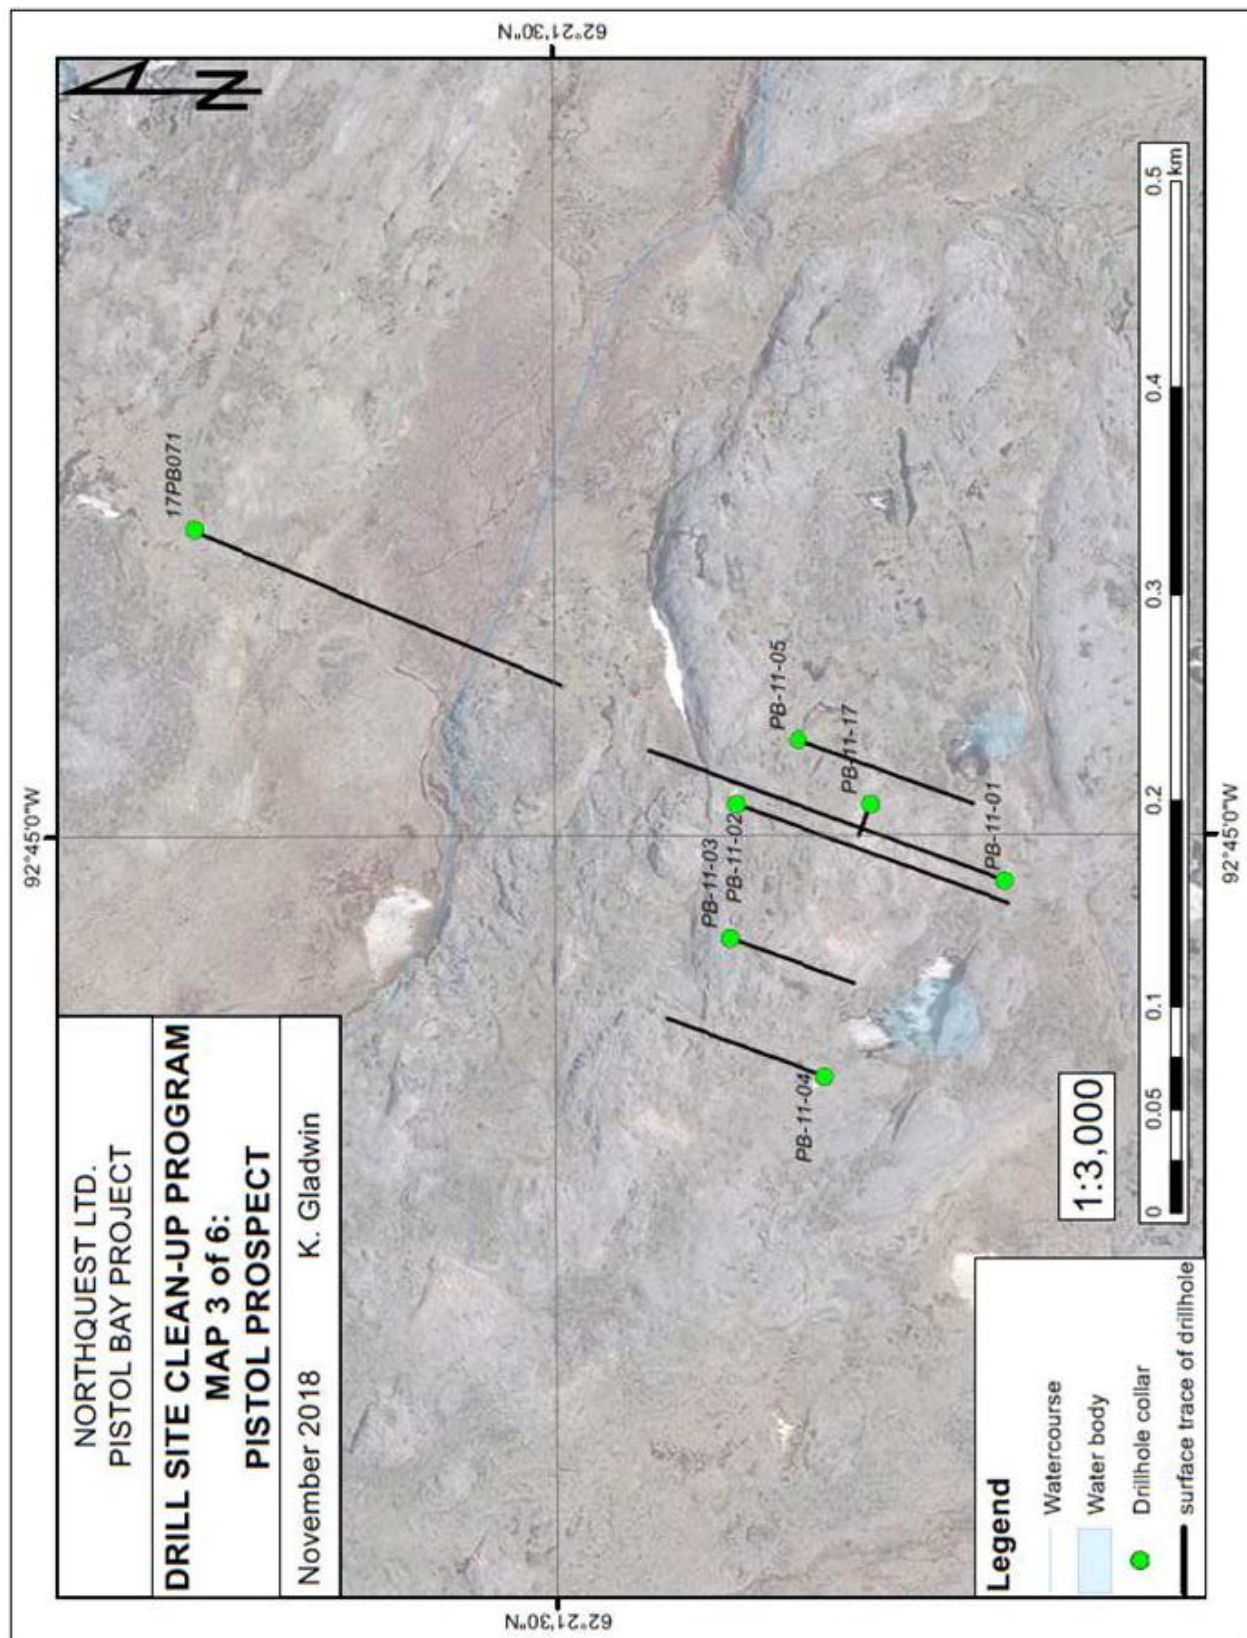

Figure 10. Map illustrating the Pistol Prospect drill sites.
- Figure 10. Map illustrating the Pistol Prospect drill sites.
| • Pistol | Drill holes illustrated on Figure 10 |